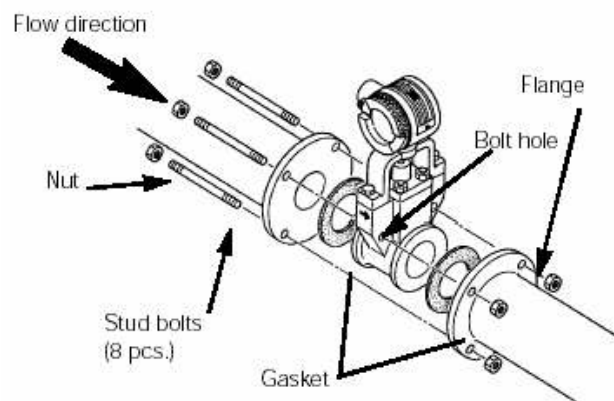

Figure 3-18
(2). If the adjacent flanges have eight bolt holes, insert the stud bolts in the holes on the instrument shoulder (see Fig. 3-18).
1. Insert two stud bolts in the bolt holes on the flowmeter shoulder to align the instrument body with the inner diameter of the adjacent piping (see fig. 3-18).